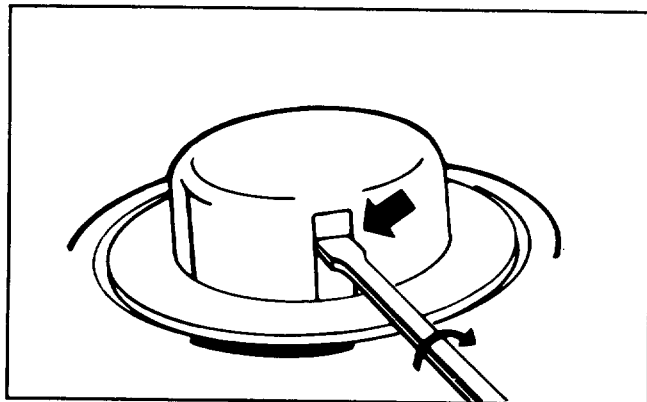

Figure 10
## REPLACING CUTTING LINE (Figs. 10–13)
2. To remove empty spool, insert medium blade screwdriver in one of two window slots on spool hub and twist screwdriver 1/4 turn (Fig. 10). Spool will snap off.